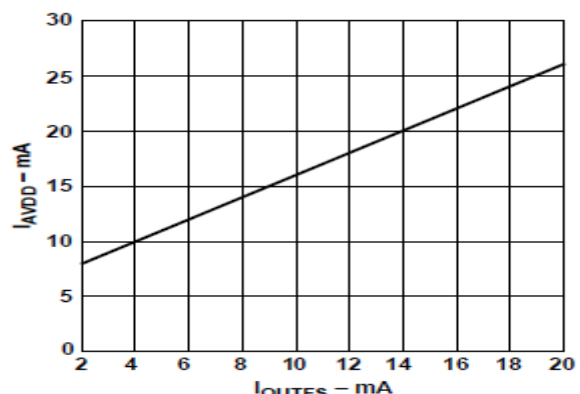

Figure 18. I_{AVDD} vs. I_{OUTFS}
The power dissipation, PD, of the 3PD9708(E) is dependent on several factors, including: (1) AVDD and DVDD, the power supply voltages; (2) I_{OUTFS} , the full-scale current output; (3) f_{CLOCK} , the update rate; (4) and the reconstructed digital input waveform. The power dissipation is directly proportional to the analog supply current, I_{AVDD} , and the digital supply current, I_{DVDD} . I_{AVDD} is directly proportional to I_{OUTFS} , as shown in Figure 18, and is insensitive to f_{CLOCK} .